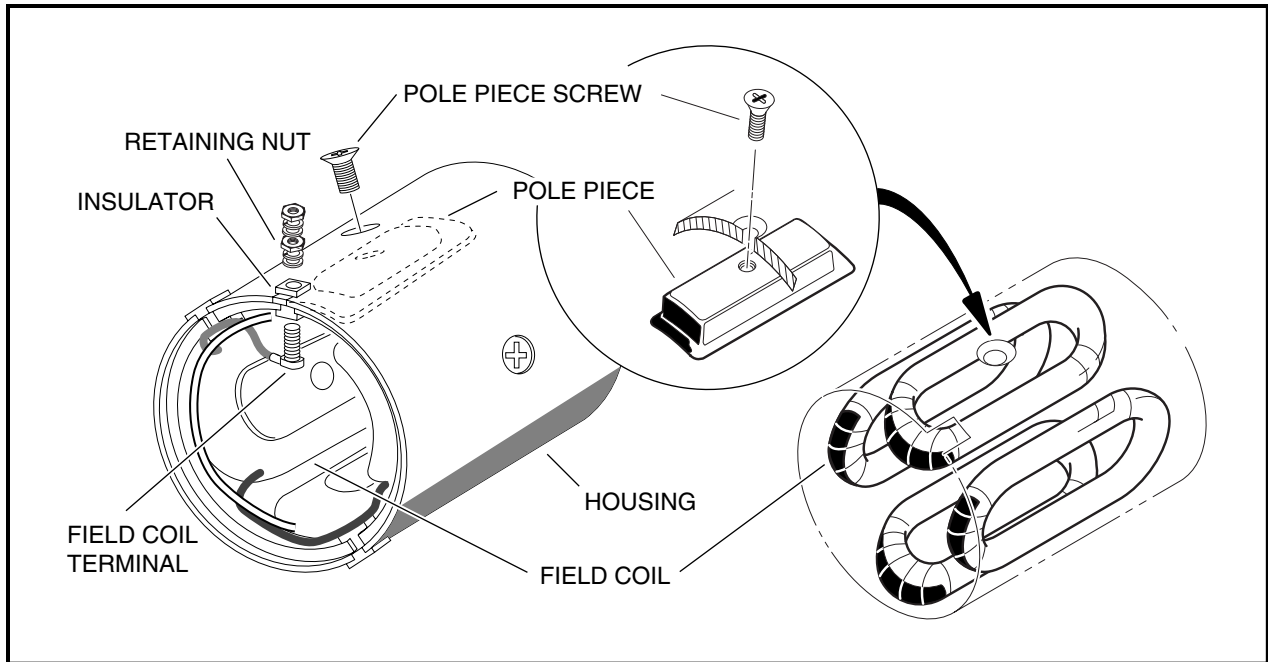

FIGURE 12-45
1. Remove the retaining nut from each field coil terminal and slide the insulator out of the slots in the housing. Remove the four pole piece screws from the housing. Remove the four pole pieces from inside the housing. Remove the field coils from the inside of the housing (**Figure 12-45**). **See NOTE below.**
- DO NOT REMOVE THE INSULATORS OR THE FIELD COILS UNLESS ELECTRICAL TEST INDICATES THAT IT IS NECESSARY (**FIGURE 12-45**). SEE TEST PROCEDURE NO. 7, PAGE 99.
- Place the field coil inside of the housing. The two insulators that look the same fit into the slots next to the F1 and F2 markings on the outside of the housing. The insulator that looks different slides into the slot next to the DF marking. After the insulators are seated in the slots, install the threaded terminals through the wire connectors and then through the insulators. Install a flat washer and a lockwasher onto each threaded terminal (on the outside of the housing). Use a nut to secure the washers and insulator to the housing. Tighten nuts to 43-52 in.lbs. (4.8/5.9 N-m) (**Figure 12-45, Page 113**).
- Install the four pole pieces into the housing. Use the four screws to secure pole pieces to the inside of the housing to retain the field wires. Tighten screws to 9 ft.lbs. (12 N-m) (**Figure 12-45, Page 113**).